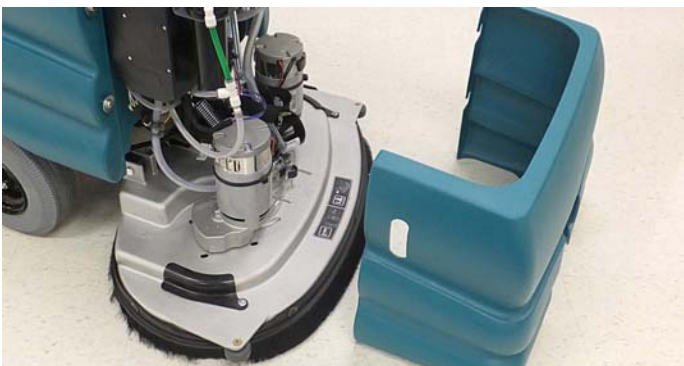

Fig. 42
4. Re-install the front shroud (Figure 42).